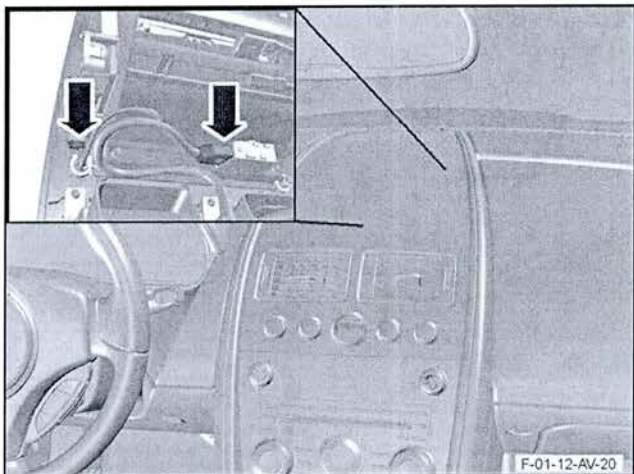

Figure 15
26. On 12MY or later vehicles, connect the two electrical connectors to the navigation display screen (refer to Figure 15).